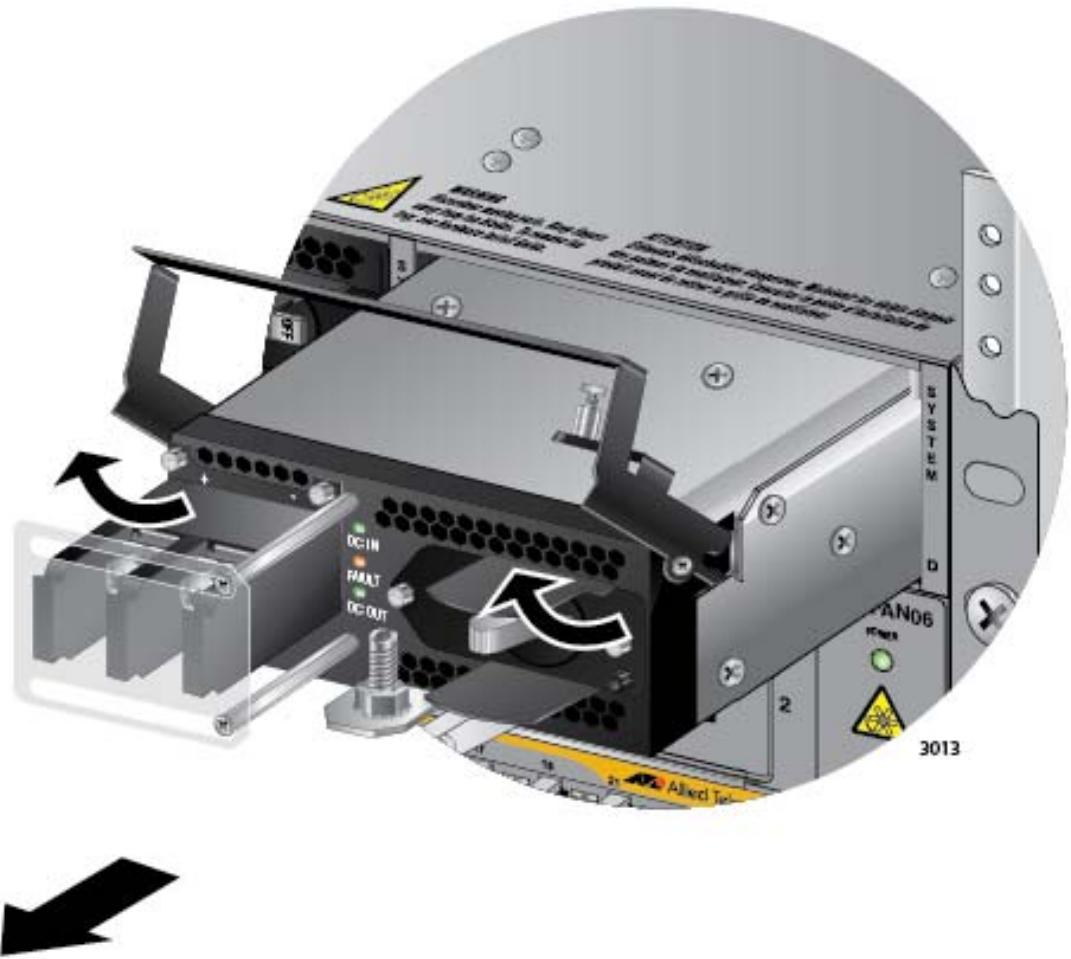

Figure 168. Lifting the Locking Handle and Removing the Power Supply
11. Lift the locking handle and slide the power supply from the chassis. Refer to Figure 168 on page 267.